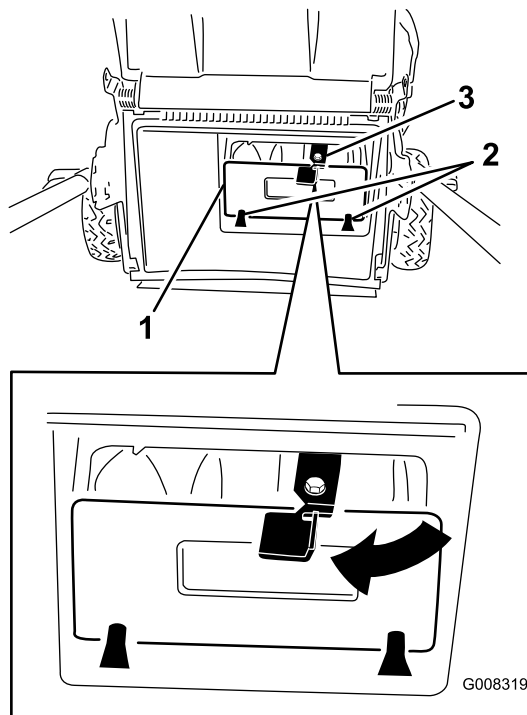

Figure 26
5. Rotate the lever lock clockwise into the locked position (Figure 26).